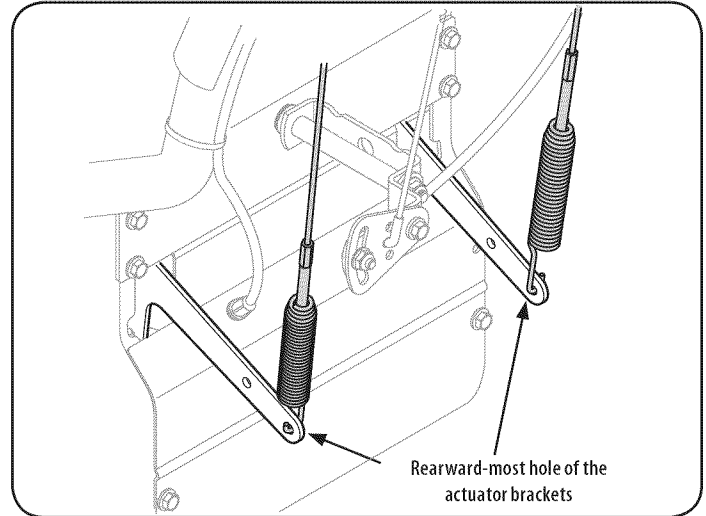

Figure 13
1. From beneath the handle, pull downward on the appropriate cable and unhook the spring found on the end of the cable from its respective actuator bracket. Refer to Figure 13.
5. Securely hook each cable's spring into the appropriate hole of the respective actuator bracket. Both cables hook into the rearward-most hole in each bracket, as shown in Figure 13.
NOTE: For ease of removal for adjustment, assemble the hooks of the springs facing towards the wheels as shown in Figure 13.